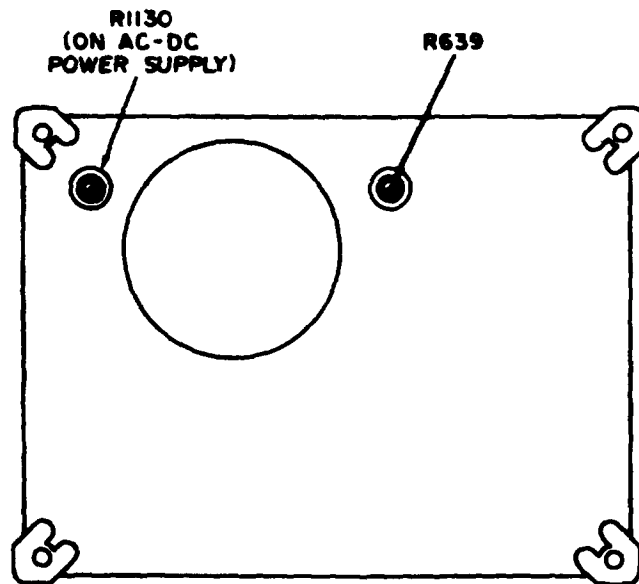

Figure 4. Test instrument - interior view.
(1) Adjust R639 or (R1130 on ac-dc power supply) (fig. 4) until multimeter indicates -12 V (R).
(2) Reinstall protective cover on TI.